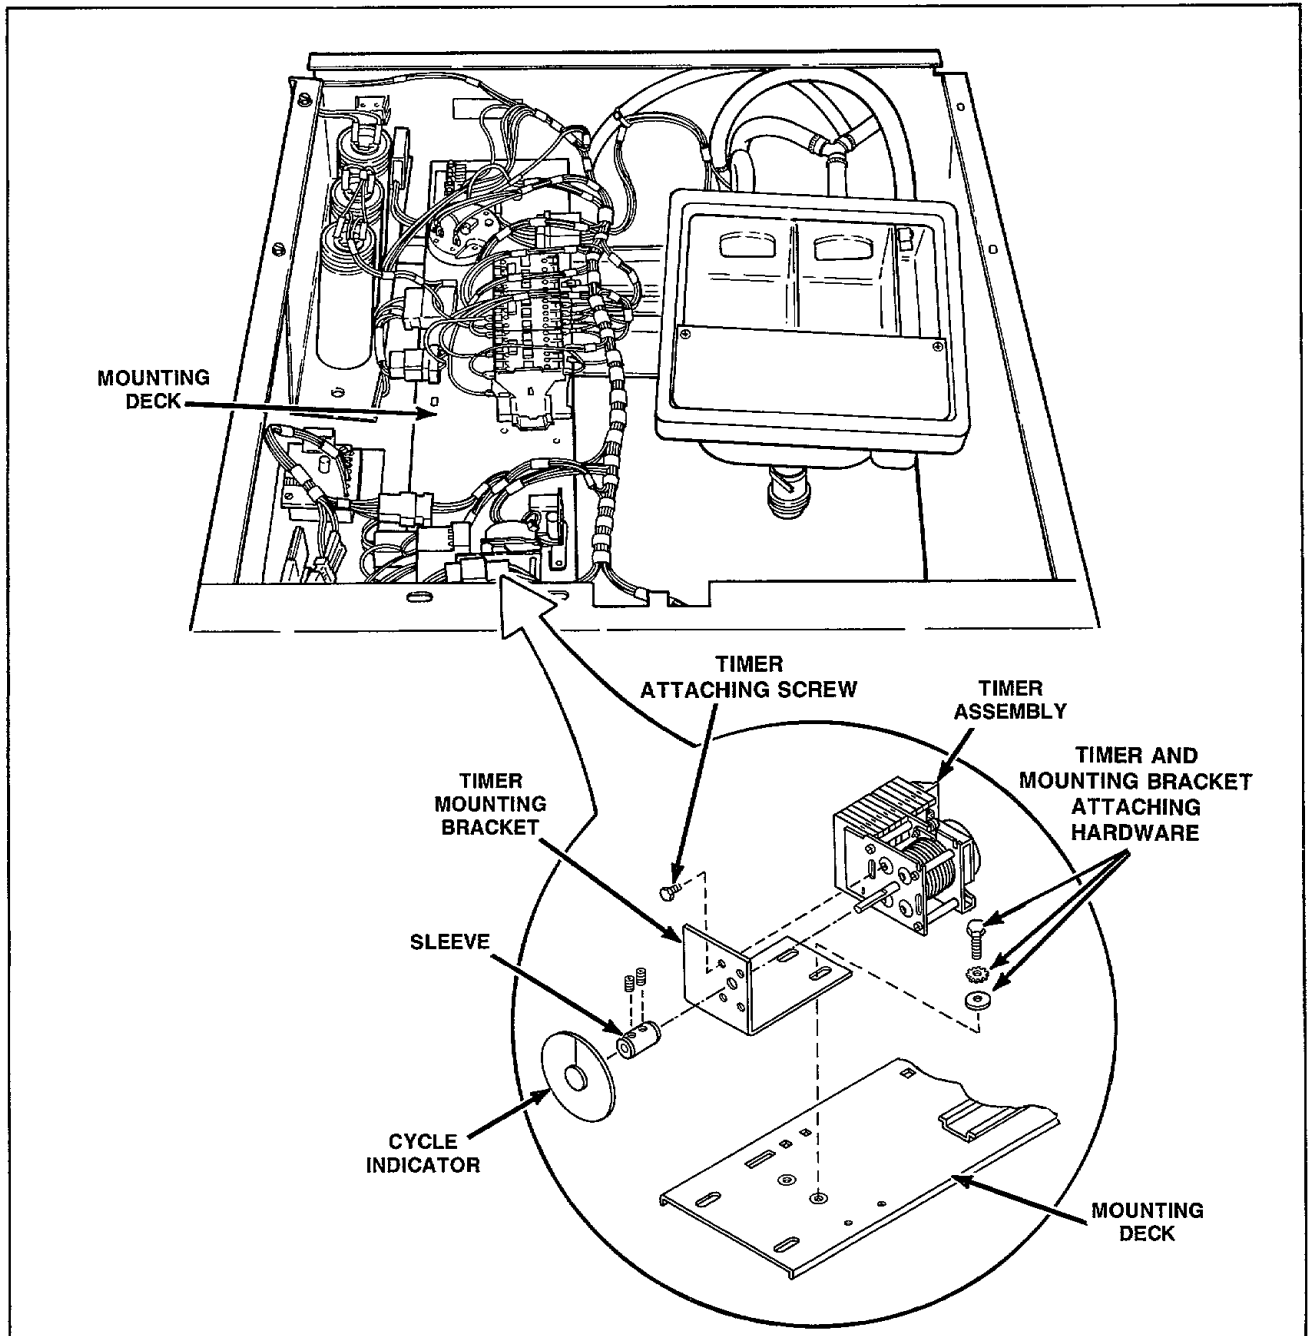

Figure 17
- e. Remove two screws and washers holding the timer and mounting bracket to the mounting deck, *Figure 17*.
- g. Loosen setscrew and remove sleeve from timer shaft, *Figure 17*.
- h. Remove four screws holding timer to mounting bracket, *Figure 17*.